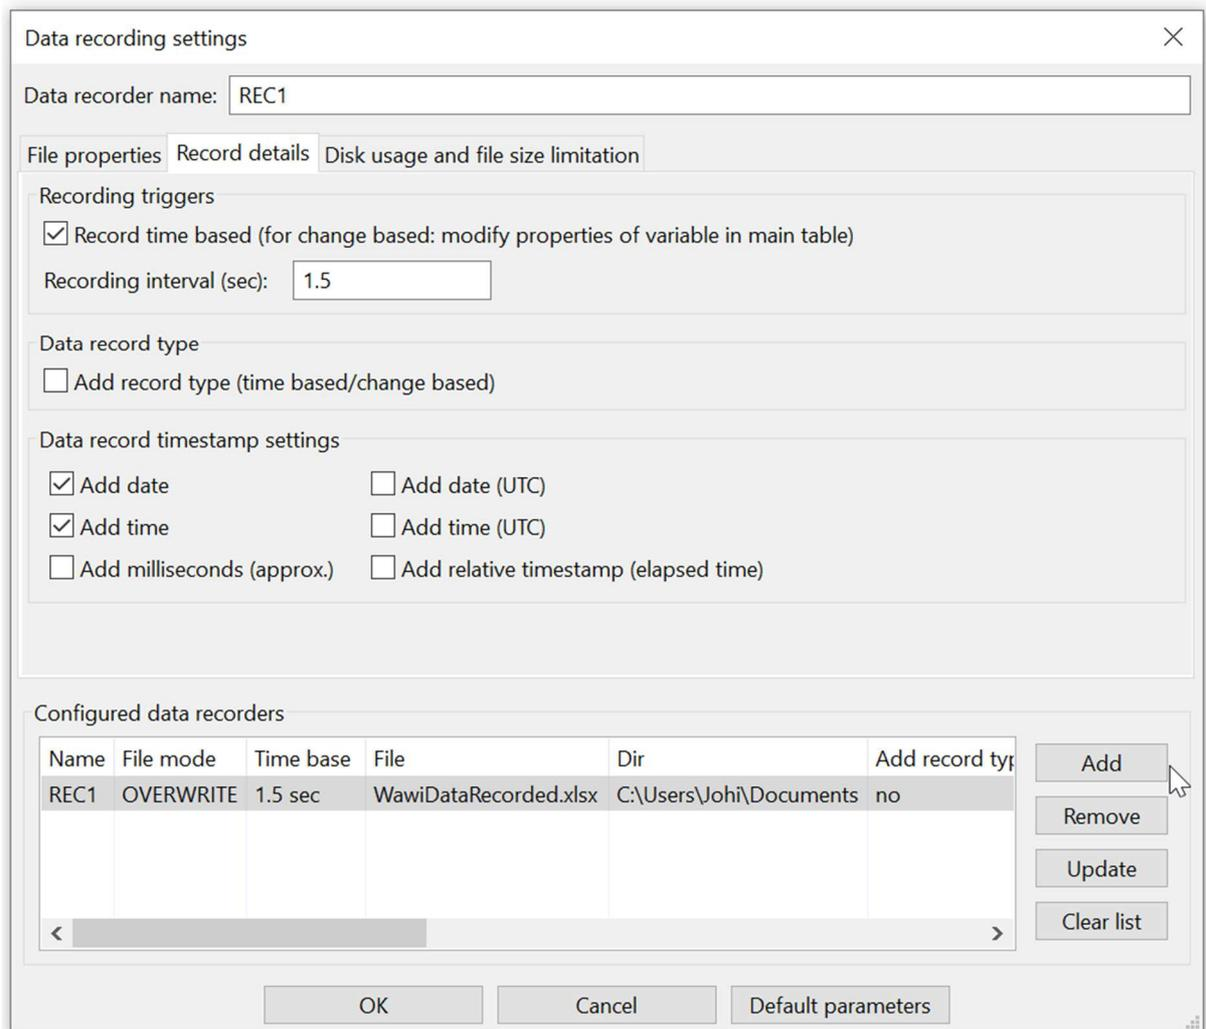

Fig. 8.2. The data recorder setup dialog, timing = 1.5 sec.
- ✓ Select the tab “Record Details” (fig. 8.2)